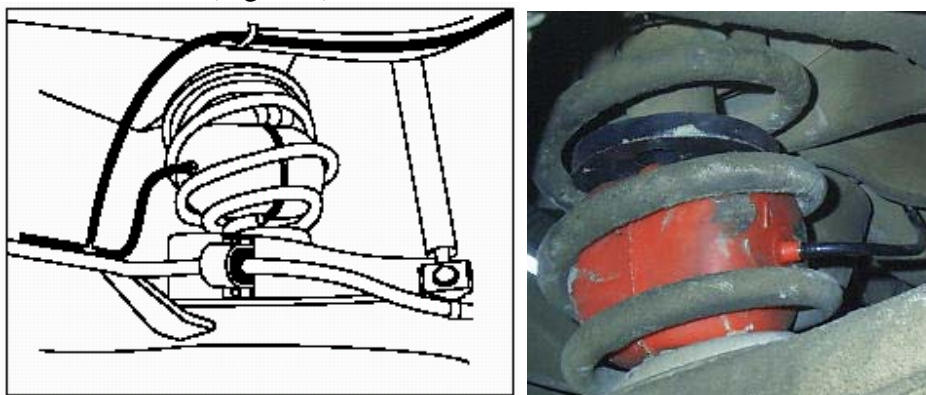

Figure 3
- (1) Insert the flattened air cylinder into the coil spring between the middle coils with the valve stem to the inboard side (Figure 3).